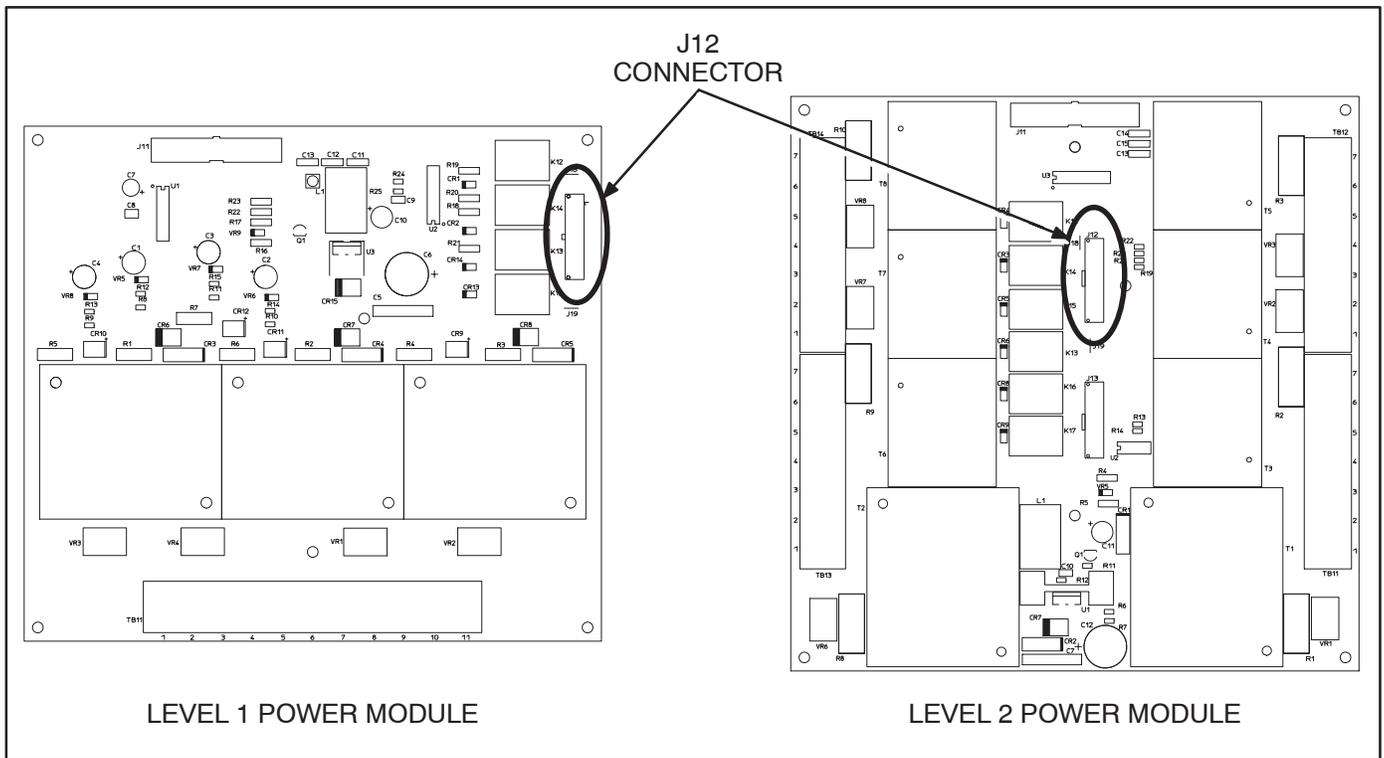

FIGURE 32-2. POWER MODULE J12/P12 CONNECTIONS
- *P12 is disconnected from the Power Module* – Check the P12/J12 connection on the Power Module to make sure it is securely attached (see Figure 32-2).